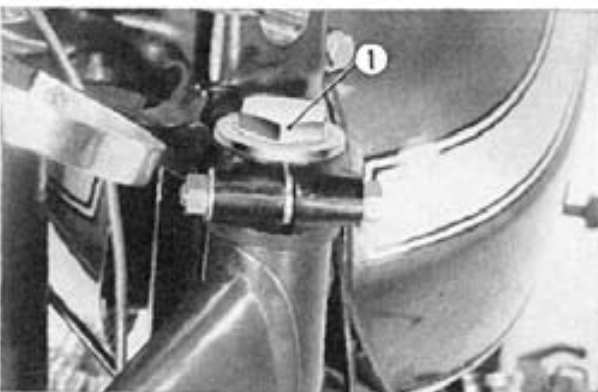

Fig. 19-17 ① Top filler plug
- b. Remove the top filler plug and fill the front fork with 7.0~7.3 ozs. (220~230 cc) of premium quality of SAE 10 W-30 grade. (Fig. 19-17)
- (3) Check the following items and if there is any fault, correct before riding.